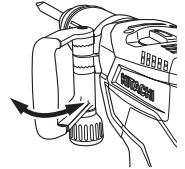
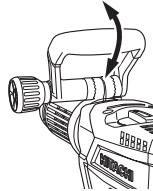
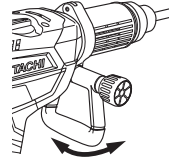

Fig. 7
Fig. 8
Fig. 9
(2) Adjust it to a position where vertical (up-and-down) operation can be facilitated as illustrated in Fig. 7, Fig. 8, and Fig. 9.
(3) Turn the grip in the direction of (B) and fix the handle.